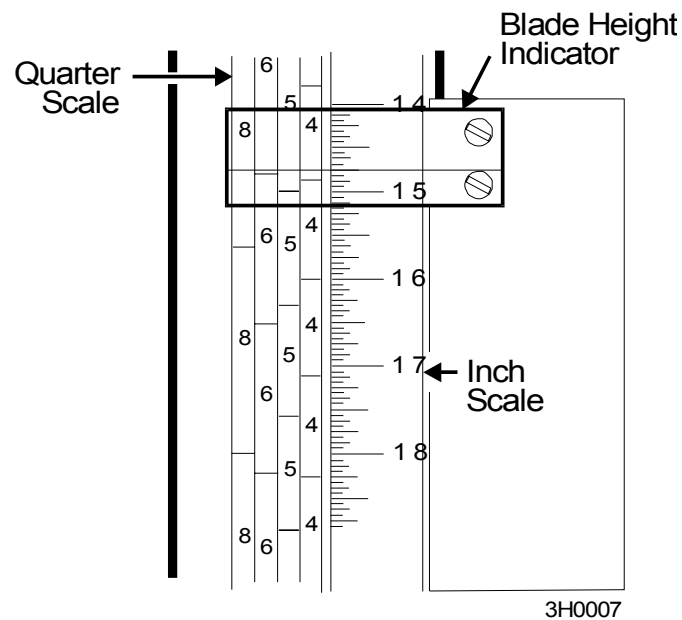

FIG. 7-45
**See Figure 7-45.** Loosen the indicator bracket mounting bolts and adjust the bracket until the indicator is aligned with the correct mark on the scale (+0 -1/32 [0.8 mm]). Retighten the bracket mounting nut.